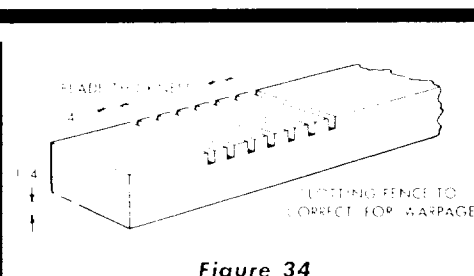

Figure 34
- a. Remove the fence and replace it with a temporary fence made from a straight piece of scrap lumber. Proceed to cut slots in the original fence where the gap between the fence and front table was determined to be the greatest. (See figure 34 for slotting arrangement.)